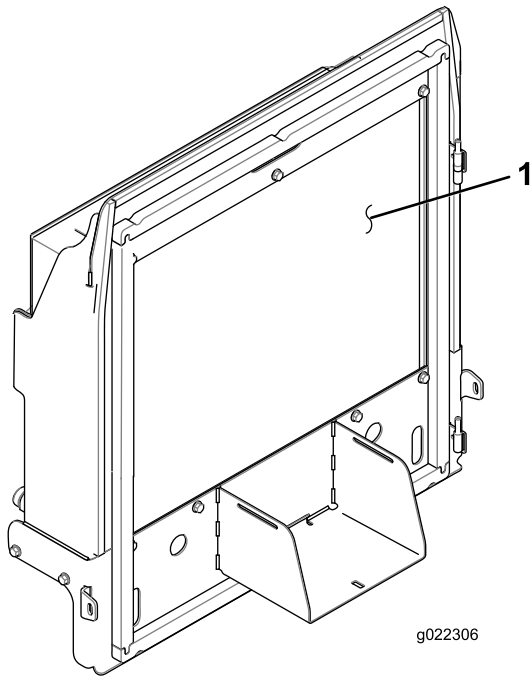

Figure 66
4. Thoroughly clean both sides of the and the radiator/oil cooler (Figure 66) with compressed air.